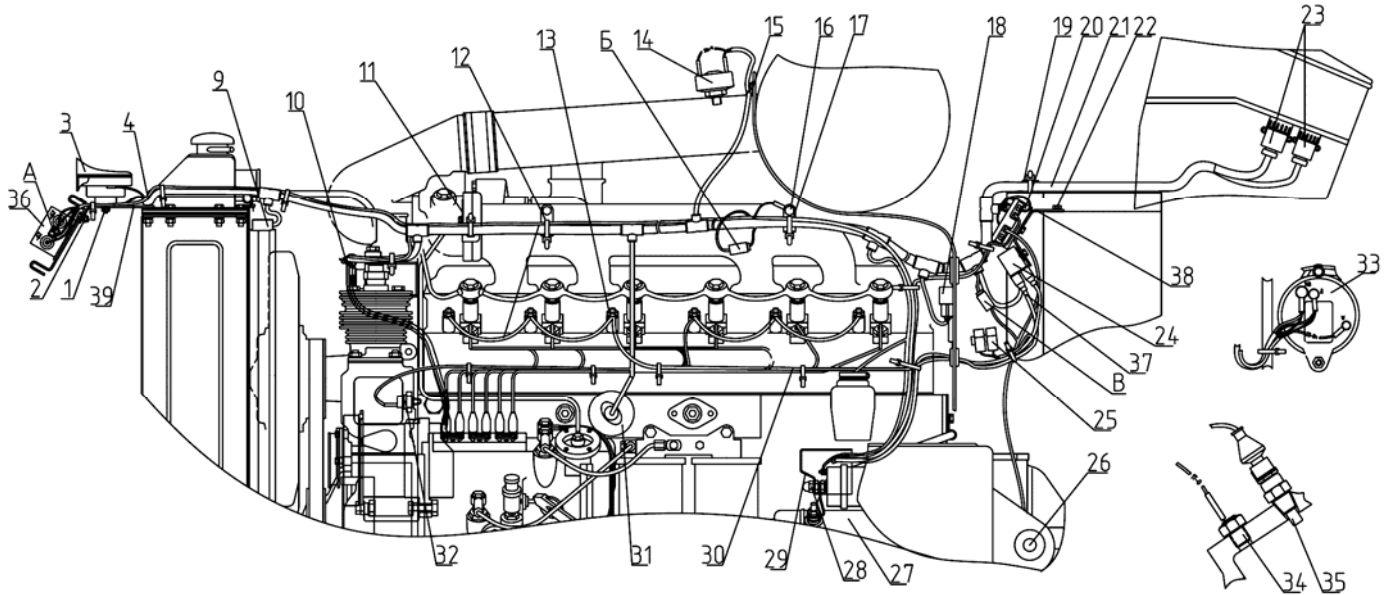

Figure 11.1
- 1) disconnect from generator 33 (Figure 11.1) terminals “14V”, “D” and “W”;
b) to dismount harness 21 (Figure 11.1) of engine electrical equipment (start-up system 24 C), perform all operations given in item “a” (see above);
c) to dismount harness of voltage converter 4 (Figure 11.1) (start-up system 24 C) do the following:
To dismount harness 21 (Figure 11.1) of engine electrical equipment (start-up system 24 C), perform all operations given in item "a" of section 11.1.1 "Dismounting electrical equipment elements of engine (MMZ) mounted on tractors BELARUS-1221.2/1221B.2";
To dismount harness of voltage converter 4 (Figure 11.1) perform operations given in item "B" of section 11.1.1 "Dismounting electrical equipment elements of engine (MMZ) mounted on tractors BELARUS-1221.2/1221B.2";
a) to dismount harness of glow plugs 30 (Figure 11.1) do the following: